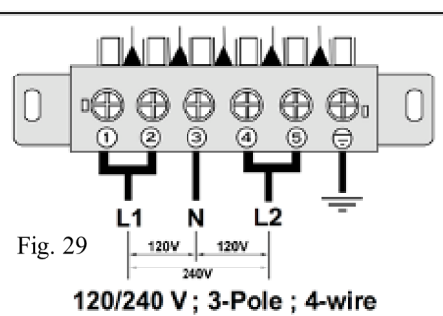

Fig. 29
- Connect to terminal block in accordance with figure 29.